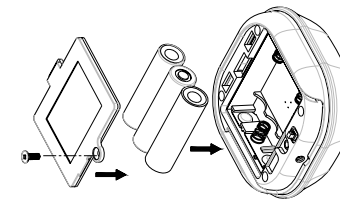

FIGURE 3
- Insert 3 AA-size 1.5V alkaline batteries to the battery compartment, ensuring correct polarity is put (FIGURE 3).